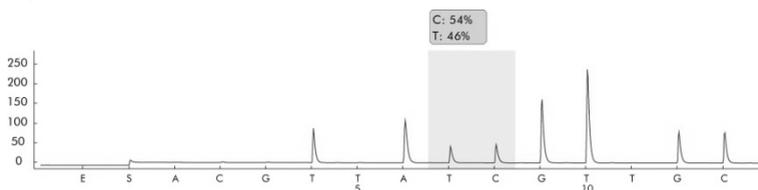

Figure 7. Pyrogram of Run 2.
48. Open the run in the ▲ *PyroMark Q24 Software* or the ■ *PyroMark Q24 Advanced Software* and analyze all wells. The peak pattern for Run 2 should look like the one in Figure 7.